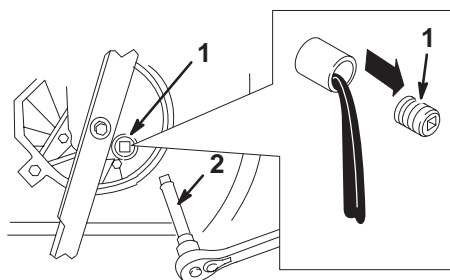

Figure 27
5. Remove the oil drain plug, return the lawn mower to its operating position, and allow the oil to drain into the drain pan (Fig 27).